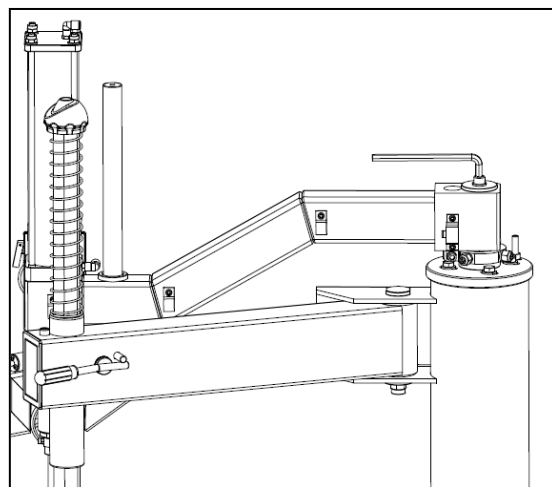

FIG5
2.3 install the assist arm (FIG4-1) onto the fixed base (FIG4-2) and swing it slightly till the assist arm slides to the bottom then install the big washer and tighten it using the 10# Allen key(FIG5).